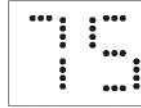

Fig 2
- After change, in cool mode, the screen display like fig2.